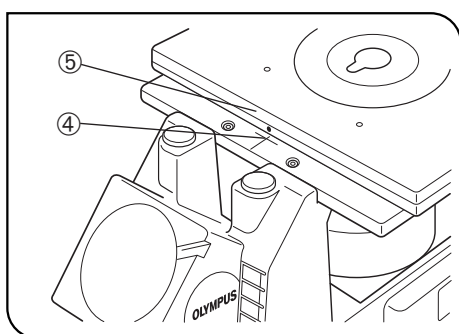

Fig. 90
3. Align the stage's center alignment index line ④ with the edge ⑤ of the upper stage. (Fig. 90)